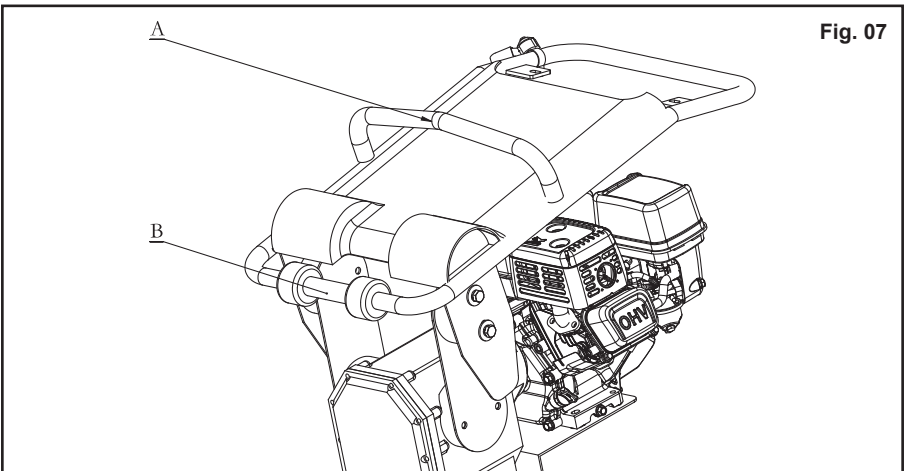

Fig. 07
- When lifting rammer, make sure lifting device has enough capacity to hold machine (see identification plate on machine for weight). Use central lifting bar (A) when lifting machine (Fig.07).
- The rammer should be transported in the same position as if it is placed on level ground. In case the rammer must be laid down for transportation, drain the fuel tank as well as the carburetor and make sure that the oil plug is tightened securely, then tie the rammer to the vehicle at roller (B). It will help to move the rammer easily when lay down.